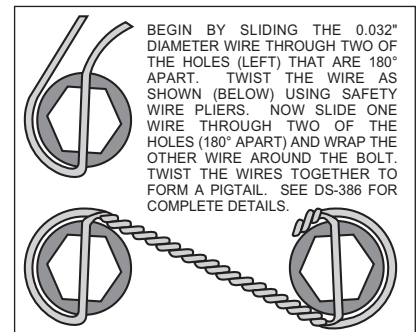

Figure 3. Safety Wire Diagram
- The caliper mount bracket assembly (1) should be installed first with clean, dry threads on the mounting bolts. Install the bracket by sliding bolt (4) through lock washer (2) from the back side through the lower caliper mounting ear on the spindle. Slide bolt (3) through lock washer (2) from a 90° degree angle on the upper portion of the steering arm. The bracket must tighten squarely against the outboard side of the caliper mount bosses on the spindle body. Inspect for interference from casting irregularities, machining ridges, burrs, etc. Later, after the caliper, pad, and rotor alignment has been checked, and any necessary shims have been put in place, the mount bolts should be coated with red *Loctite*® 271 and torqued to 65 ft-lbs.
- Install wheel studs (5) into the hub (6). Torque to 77 ft-lb. **NOTE:** There are two (2) five lug patterns in the hub (5 x 4.50 and 5 x 4.75). Make sure of the correct hole pattern for the correct wheel application before installing studs into hub.
- Pack the large inner bearing cone (7) with high temperature disc brake bearing grease (available from your local auto parts store) and install into the backside of the hub (6).
- Install the grease seal (8) by pressing into the backside of the hub (6).
- Pack the small outer bearing cone (14) with high temperature disc brake bearing grease and install into front of hub (6). Slide the hub assembly (5, 6, 7, 8 and 14) onto the spindle. Secure using spindle washer (15), stock adjusting nut and nut locking device. Adjust wheel bearing pre-load per Original Equipment manufacturer (OEM) specifications.
- Install the o-ring (16) on the dust cap (17), and screw dust cap assembly onto the hub (6). Friction created by the o-ring (16) on the dust cap (17) keeps it from unscrewing.
- With the larger I.D. side of the rotor (9) facing away from the hat (10), bolt rotor (9) to hat(10) through the backside of the rotor using washers (11) and bolts (12). Torque bolts (12) to 85 **in-lb**. Safety wire bolts (12) using standard 0.032 inch diameter stainless steel safety wire as shown in Figure 3. Please refer to Wilwood's data sheet DS-386 (available at www.wilwood.org/ds386.pdf) for complete safety wire installation instructions.
- Slide the rotor/hat assembly over the studs (5) in the hub (6) taking care to align the small countersunk holes in the hat (10) with the small threaded holes in the hub (6). Install three flat head socket head screws (13) through the small holes in the hat (10) and torque to 85 **in-lb**.